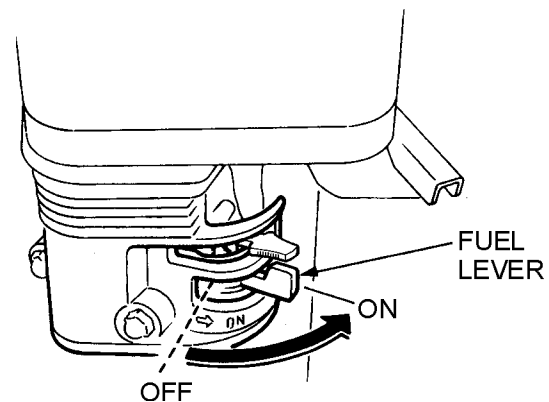

Figure 16. Engine Fuel Valve Lever
1. Place the **fuel valve lever** (Figure 16) to the "ON" position.